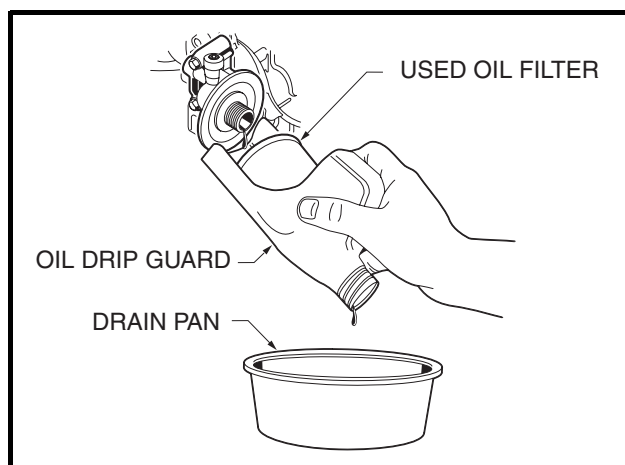

Figure 29 Remove Engine Oil Filter
9. Remove the engine oil filter, turning it counterclockwise, allowing the residual oil in the filter port and filter to drain into the oil drain pan (**Figure 29, Page 44**). **See following NOTE.**